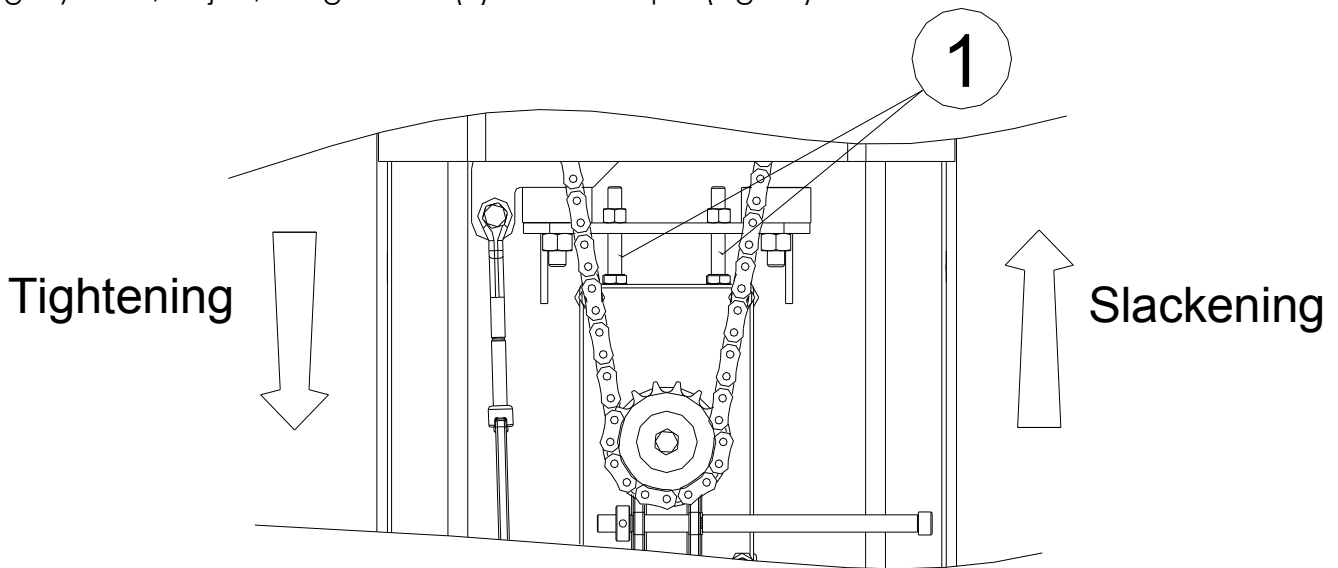

Fig. 12
The chain's tension is adjusted directly in the warehouse, however, if you notice that the chain is slightly slack, adjust, using screws (1) as in example (Fig. 12).